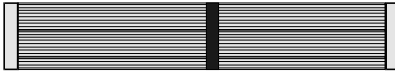

Figure 1-1 IDE cable
- ❑ One 40-pin Ultra DMA-66 IDE connector ribbon cable (Figure 1-1)